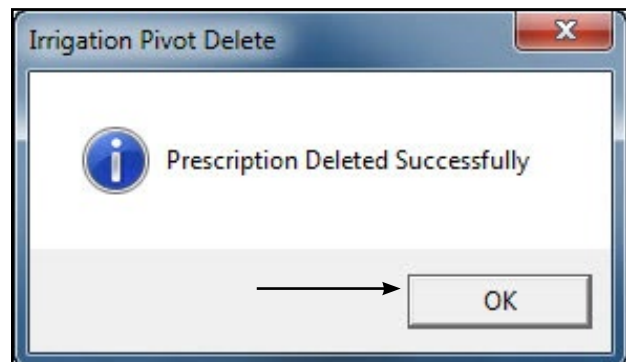

Figure 38-3 Deletion Successful
4. Click **OK**. See Figure 38-3.